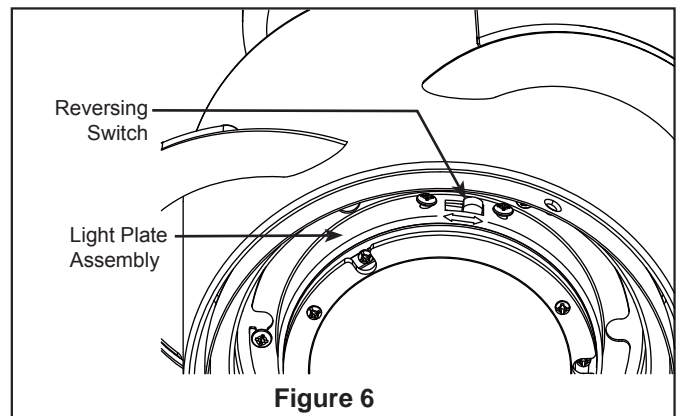

Figure 6
Remove the three screws in the light plate assembly and retain the screws for Step 8. (Figure 6)
6. If airflow is desired in the opposite direction, turn the fan off and wait for the blades to stop turning. Remove the light shade or steel cap then slide the reverse switch of on the light plate assembly to the opposite position and turn fan on again. Assemble the light shade or steel cap to the switch housing assembly by twisting in a clockwise direction. (Figure 6 )